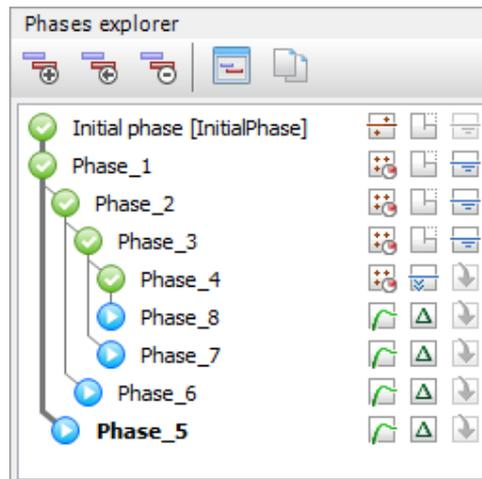

Figure 4.15 *Phases explorer* displaying the *Safety* calculation phases
- Follow the same steps to create new calculation phases that analyse the stability at the end of each consolidation phase. In addition to selecting *Safety* as calculation type, select the corresponding consolidation phase as the *Start from phase* parameter. The *Phases explorer* displaying the *Safety* calculation phases is shown in Figure 4.15.